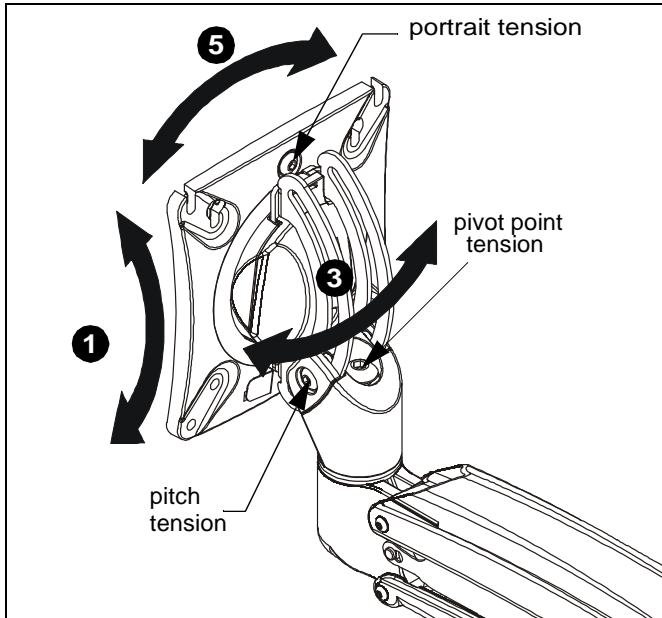

Figure 19
5. The monitor may be adjusted 90 degrees in either direction in order to provide a portrait view of the monitor. (See Figure 19)
6. Use 3/16" hex key (K) to adjust rotational adjustment screw to adjust rotational tension. (See Figure 19)
7. The monitor may be adjusted 90 degrees in either direction in order to provide a portrait view of the monitor. (See Figure 19)
8. Use 3/16" hex key (K) to adjust rotational adjustment screw to adjust rotational tension. (See Figure 19)